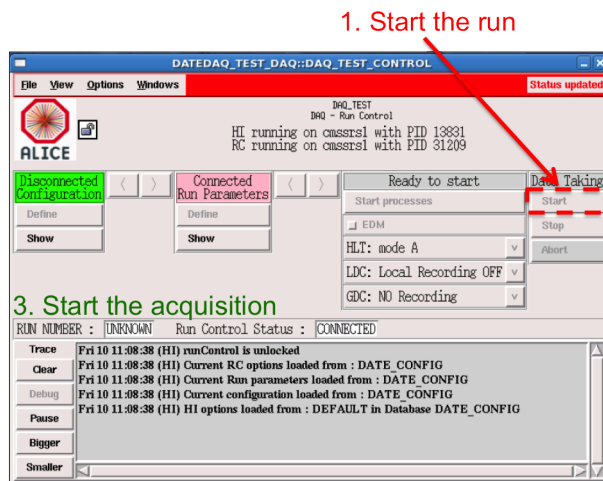

Figure 5.28: QC5 test control window.
7. In the DATE test control window, select the available arrow to the right to enable the "*Data to Taking*" panel (see Fig. 5.28). Click on "*Start*" to start the run.
3. In the DATE test control window, select the available arrow to the right to enable the "Data to Taking" panel (see Fig. 5.28). Click on "Stop" to stop the run.